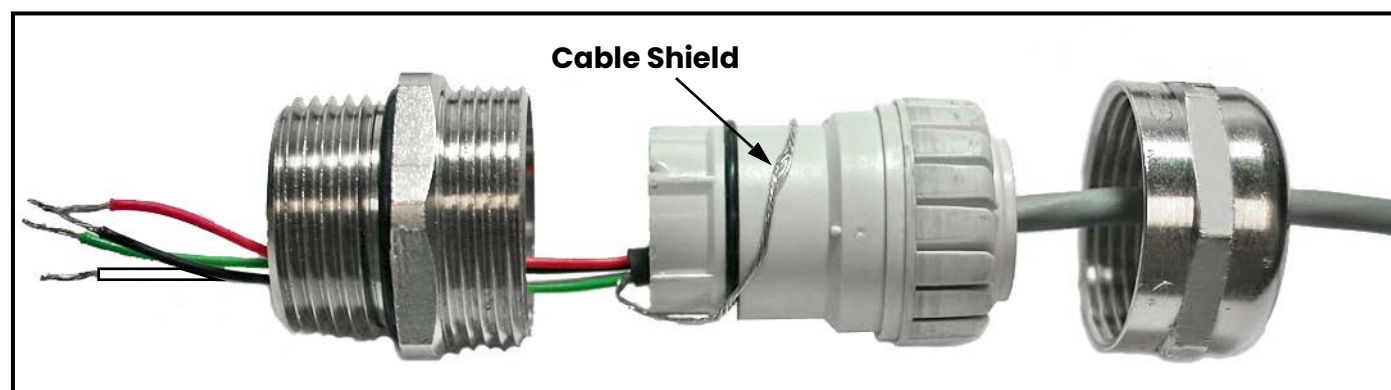

Figure 3: Proper Cable Gland Assembly
1. Route the 4-wire power/analog output cable through a cable gland as shown in *Figure 3* below.
IMPORTANT: The cable shield must be terminated in the cable gland as shown in *Figure 3* below.
For CE Mark compliance, you must use shielded cable and connect the shield to a cable gland (see Figure 3 on page 7). After you make all the necessary electrical connections, seal the unused cable entry holes with standard conduit plugs or their equivalent.